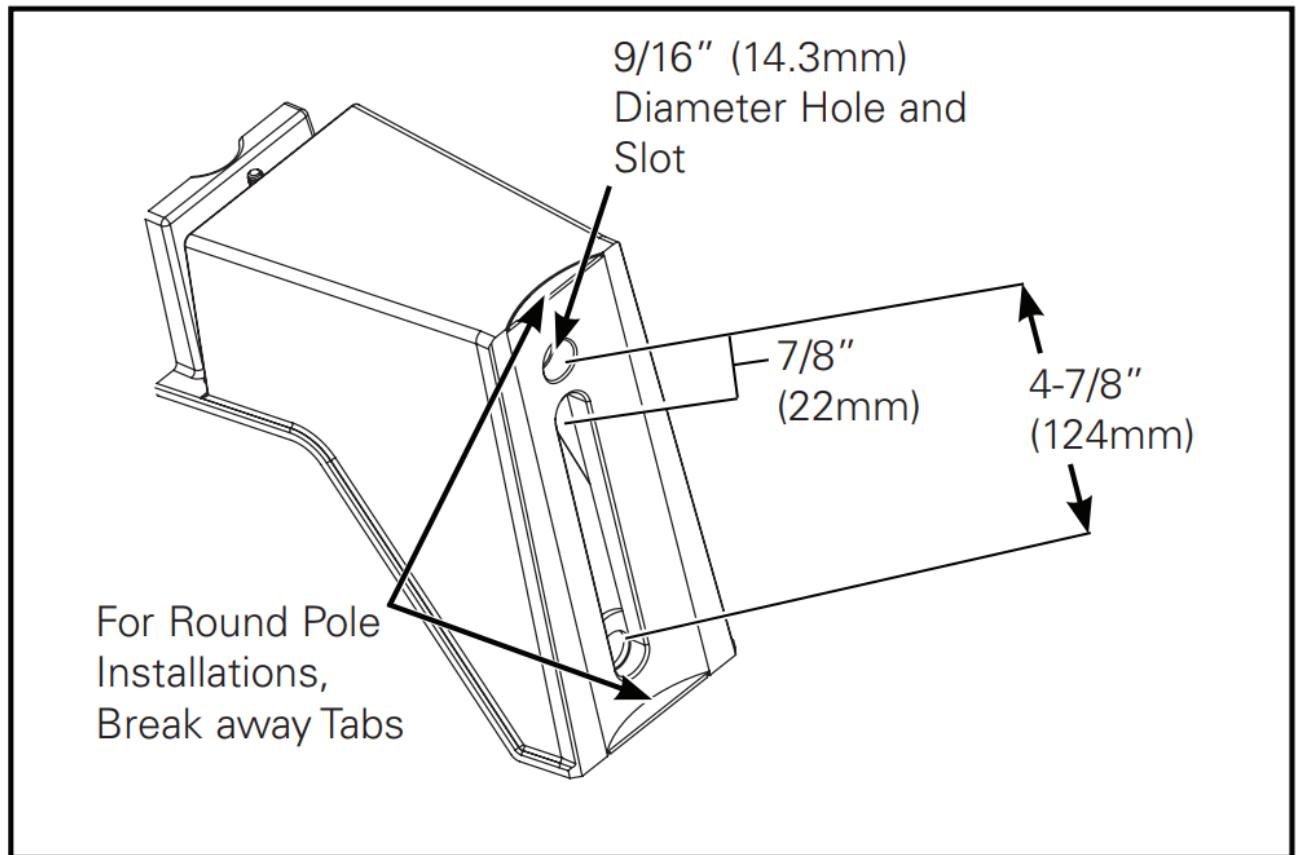
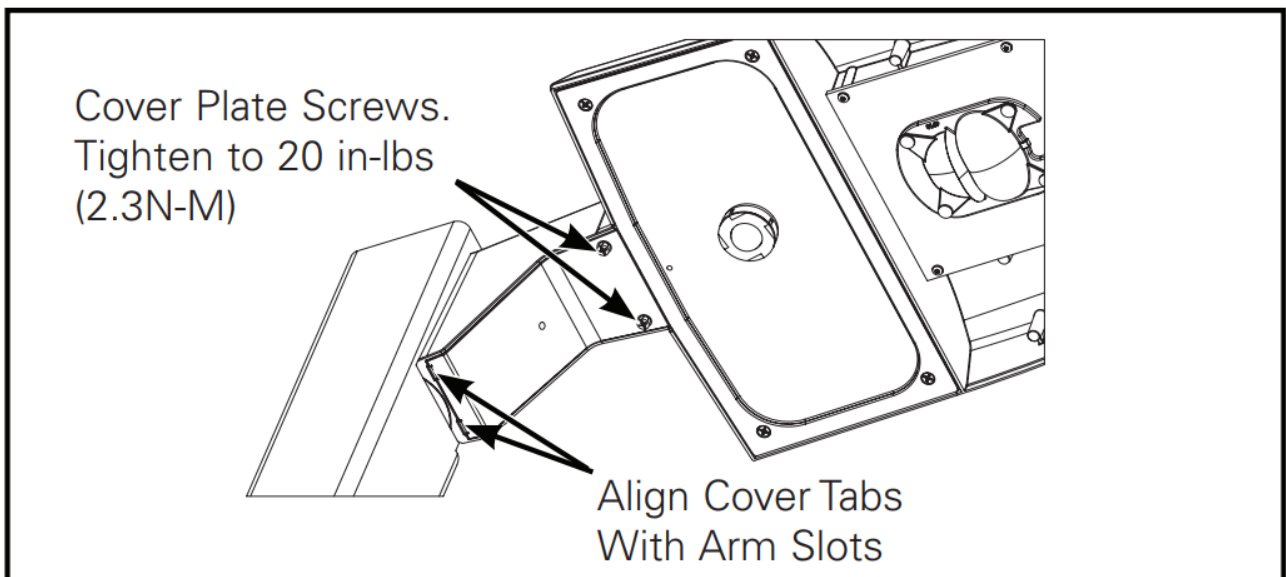

Figure 1.
Figure 5.
Pole Mount Arm (Figure 1. – Figure 5.)
1. Pole mounting arm is designed for a square or round pole. Round pole installation will require the mounting arm break away tabs to be removed. Grab break away tab with pliers and break-away the tab. (Figure 1.)
Note: Ensure the luminaire supply leads do not get pinched between cover and mounting arm. (Figure 5.)